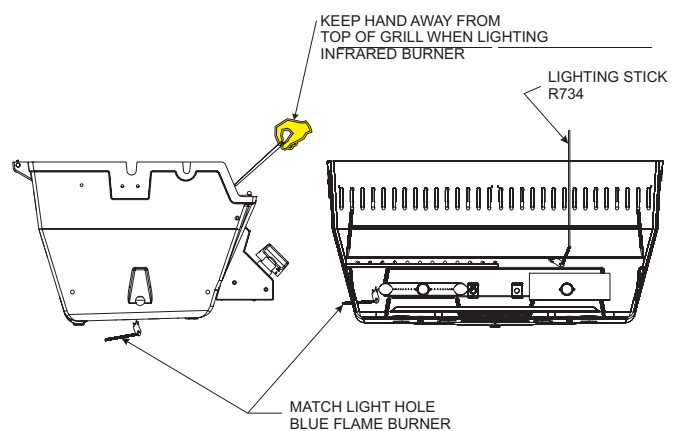

Figure 35
4. For Blue Flame grills, insert a burning long wooden match through the lighter hole on the left side of the grill. For Infrared grills, insert the lighting stick with a long wooden match attached through the cooking grid to ignite the infrared burner from the top. **See Figure 35.**